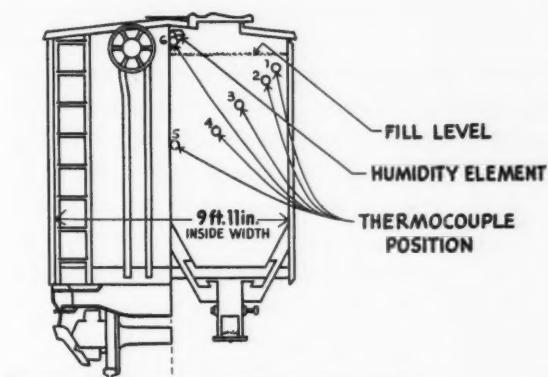

Fig. 1. Cross section of bulk car showing temperature and humidity elements.
Thermocouples attached to a strip chart recorder were placed inside the car in both the air space above the flour and buried in the flour so as to obtain a record of temperature changes within the load in the following places corresponding to the numbered circles in Fig. 1: (1) 6 in. below the surface and 6 in. from the outer wall; (2) 12 in. below the surface and 12 in. from the outer wall; (3) 2 ft. below the surface and 2 ft. from the outer wall; (4) 3 ft. below the surface and 3 ft. from the outer wall; and (5) 3½ ft. below the surface and 3½ ft. from the outer wall (this represents the approximate center of the load).